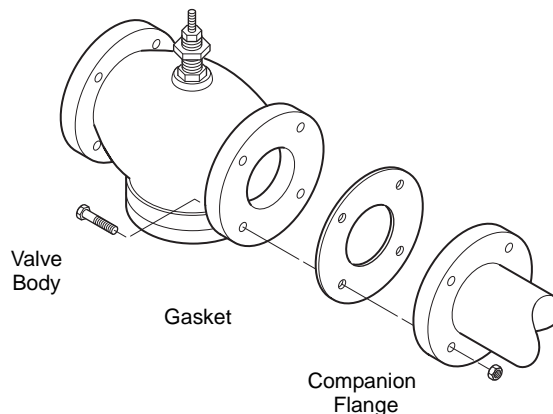
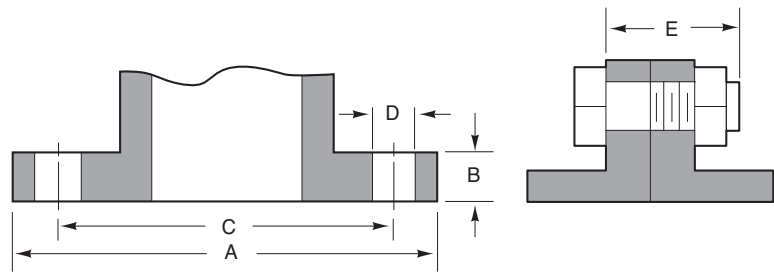

Figure-5 Installation of Flanged End Valves.
Figure-8 Flange Dimensions.
4. Figure-5 shows the proper way a flanged valve should be mounted. See Figure-8 for flange and flange bolt details.
Table-10 Flange Detail for American Standard 125 lb. Cast Iron Pipe Flanges (Figure-8).